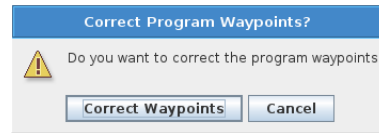

Figure 3.12: Load the program which is going to be corrected
- (12) Load the program to be corrected from the "Program" tab or the top "File" menu.
- (13) The robot controller detects if a correction is applicable and asks whether you want to correct the program. To correct the program press "Correct Waypoints" (see Figure 3.12).